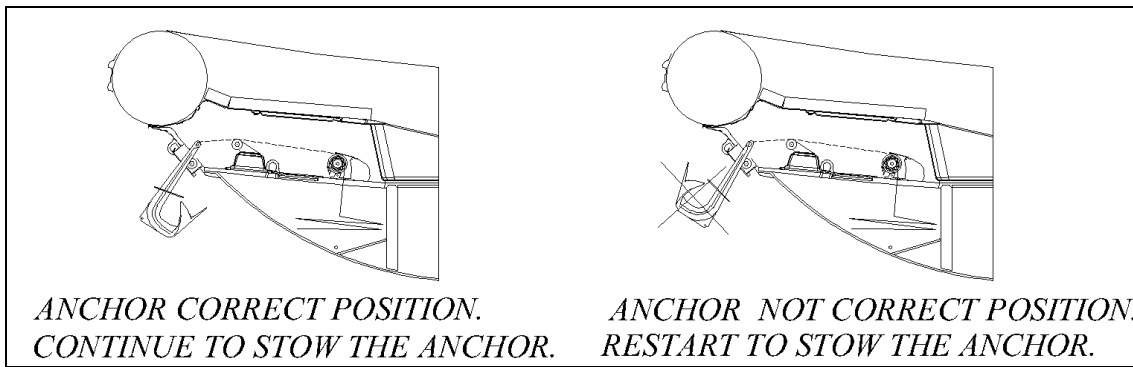

Fig.16
2. Open the bow anchor hatch (11). By means of special handle close the clutch nut (3).
3. Check that the safety pin (6) is detached from chain.
5. By means of anchor windlass "UP" switch (9) begin to raise the anchor. You can also use the button (9a) to raise the anchor.
6. When the anchor will begin to crawl on a roller, stop windlass electric motor in order to make sure that the anchor is not swinging and have occupied correct position. CHECK, THAT THE ANCHOR OCCUPIED CORRECT POSITION (Fig. 16).
8. Switch OFF the windlass circuit breaker (8).
9. Hook safety pin (6) to chain. Close the bow anchor hatch (11).